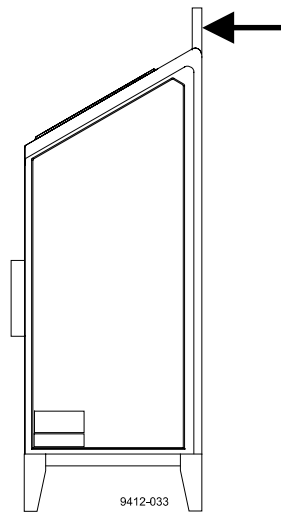

Figure 2-1 Measurement Unit Handle
- Use the measurement unit handle for lifting and carrying (Figure 2-1).